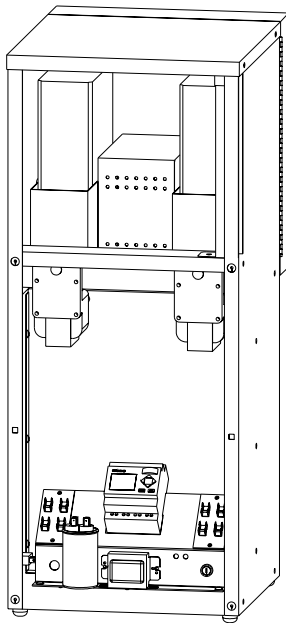

Fig. 4
6. Carefully remove the back of the machine and locate the Siemens "Logo" microprocessor (Fig. 4)